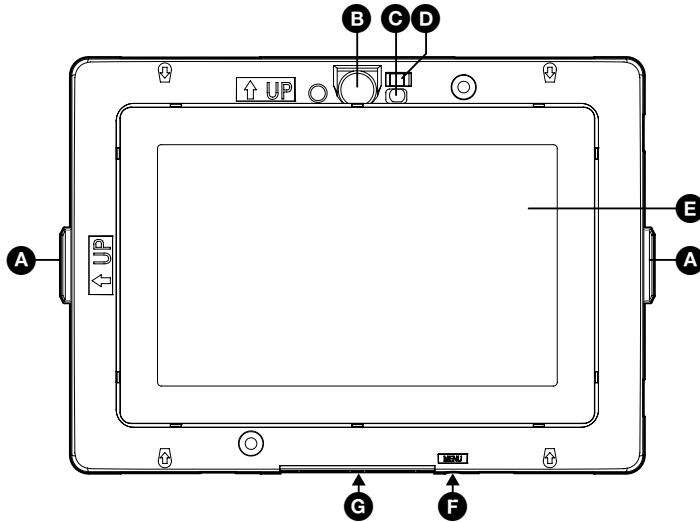

Figure 2. TLP Pro 520M Front Panel without bezel
- F Menu button** — activates the setup menu (see page 6). There is a slot in the bottom surface of the touchpanel, directly under the Menu text (see the arrow in figure 2, **G**).